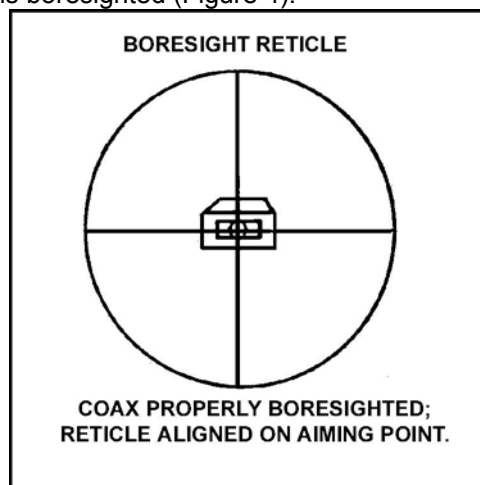

Figure 4. Reticle aligned on the aiming point.
- a. If the aiming point image is in the center of the reticle where the crosshairs intersect, the M240C machine gun is boresighted (Figure 4).